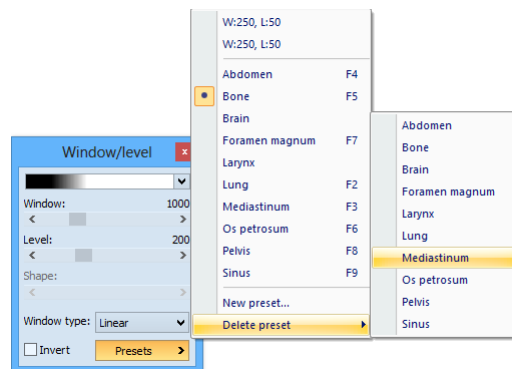

Figure 158 – Deleting a window/level preset
3. Select the preset you want to remove in the displayed submenu list (see Figure 158).